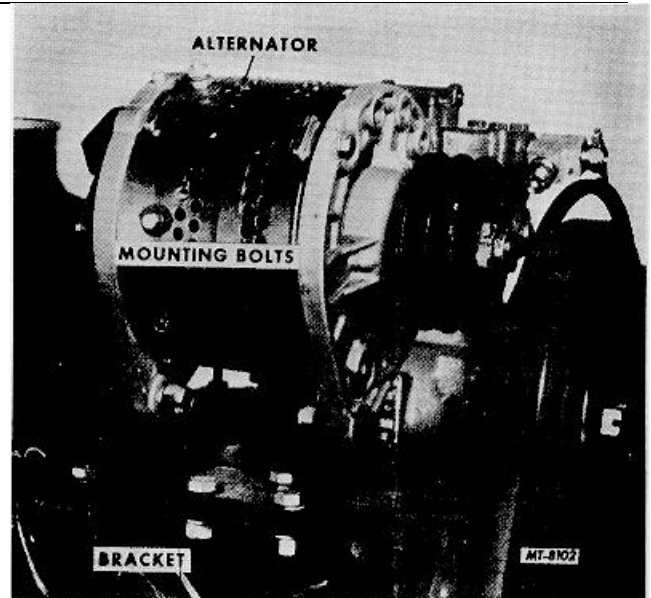

Fig. 23 Alternator Mounting Details (Typical)
9. Loosen alternator mounting bolts and remove alternator drive belts from pulleys. Remove the alternator mounting bolts and remove alternator from bracket (Figure 23).